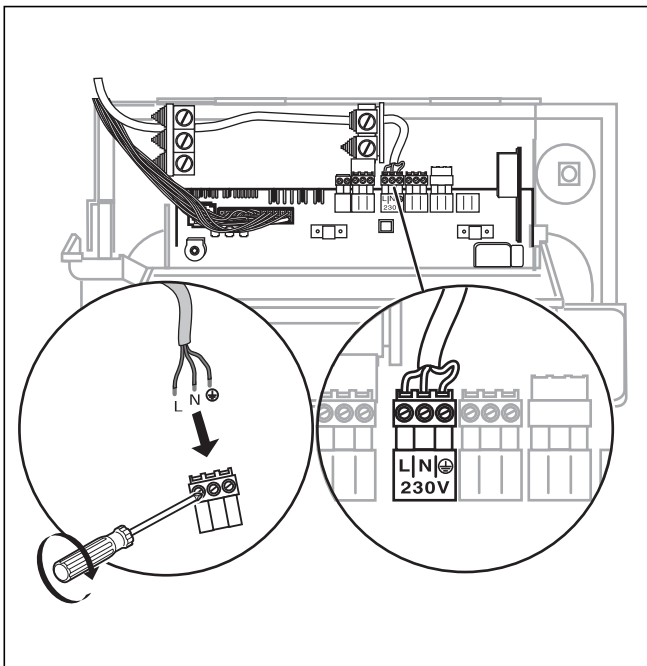

Fig. 5.1 Connecting the mains supply
The mains infeed and all other connection cables (e.g. from the heating pump) can be connected to the ProE System plugs provided for the purpose (see Fig. 5.1 and 5.2). Mains and small voltage cable (e.g. sensor feed) must be physically separated and laid.
- Connect the mains feed securely to the ProE plug (see Fig. 5.1).